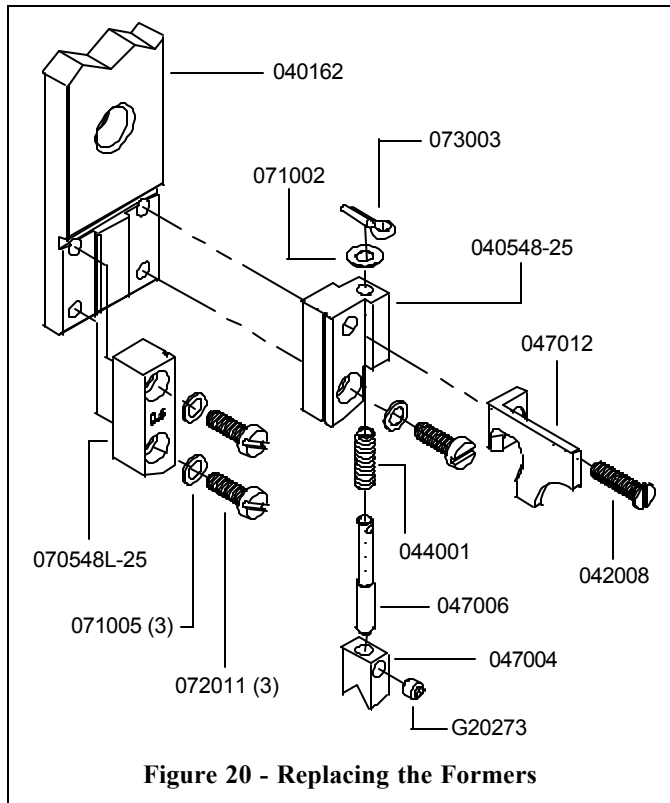

**Figure 19 - Replacing the Driver**
**Replacing the Driver (Figure 19)**